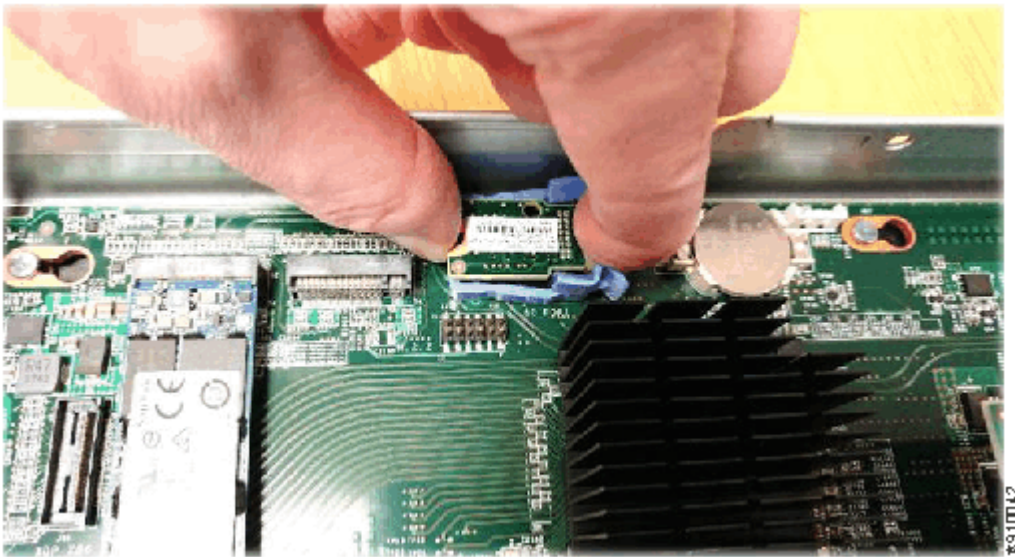

Figure 92. Removing the TPM
7. Insert your finger tip between the latches and hold the TPM between your thumb and finger, as shown in Figure 92 on page 143.